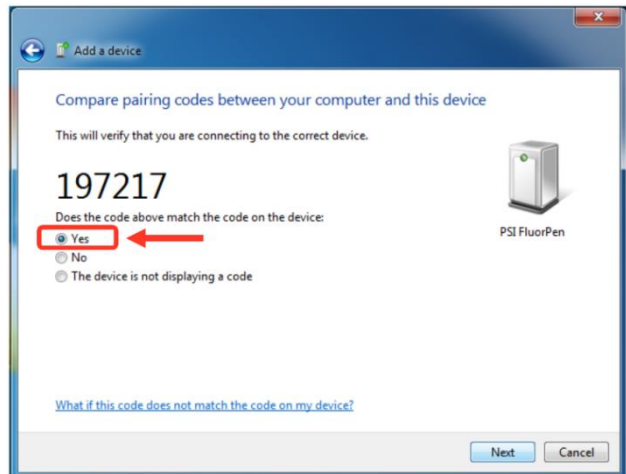

Fig. 17 Verifying of the Bluetooth pairing.
- Select: Yes (Fig. 17). Please note that the FluorPen device does not display the verification number. The verification code is not important for the BT connection.